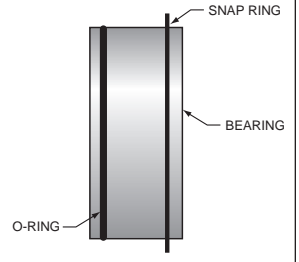
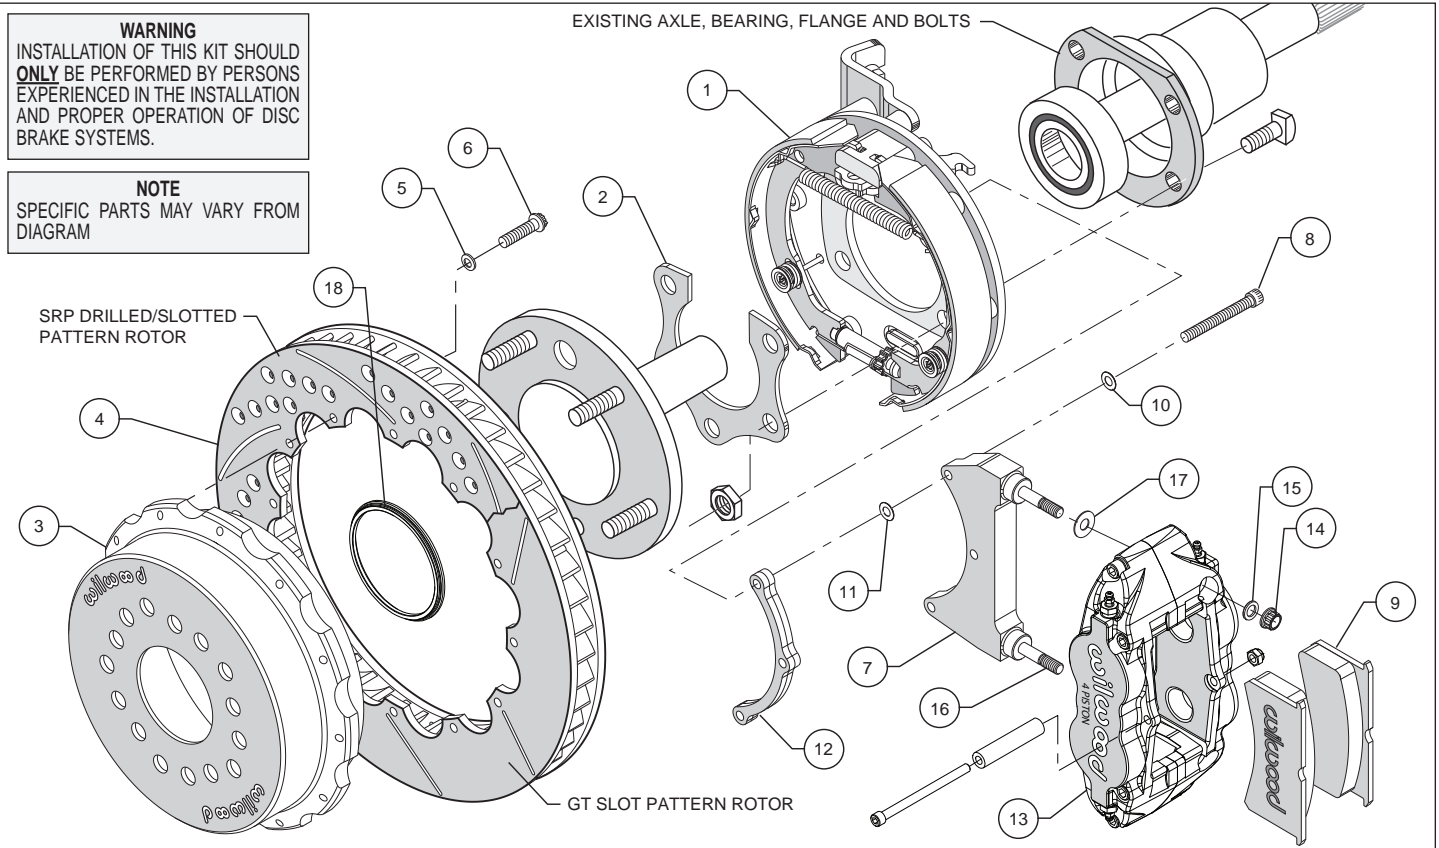

Figure 2. Loose Fit Bearing Configuration
Figure 3. Typical Installation Configuration
THIS BEARING WILL NEED TO BE REPLACED WITH THE STYLE BEARING SHOWN IN FIGURE 2
- Axle center register diameter is 2.80", Figure 3. This kit uses Wilwood's removable center register adapters. Rotors can either be centered on the axle register, i.e. *register-centric* or centered on the wheel studs, i.e. *stud-centric*. Due to variations in wheel stud final diameters, *register-centric* centering can be a more accurate method of centering the rotor to the axle. Wilwood offers various diameter adapters for purchase in addition to the ones supplied in this kit, see Table 1.
- Determine that the appropriate snap ring style green bearing has been installed on the axle, as shown in Figure 2. Temporarily remove snap ring from bearing. Orient the bracket assembly (1) as shown in Figure 3 and slide it onto the axle and over the bearing. Reinstall snap ring on bearing. Insert the axle and bracket into the axle housing. Ensure that the bracket assembly backing plate fits flush against the axle housing flange.
- Install the bearing retainer (2) with the opening pointing upward and the bearing relief step facing inward (toward the bearing), as shown in Figures 3 and 6. Secure retainer and bracket assembly to the axle housing flange using the Original Equipment Manufacturer (OEM) bolts and nuts, Figure 3. Apply red *Loctite*® 271 to the OEM bolt threads and torque to OEM specifications.